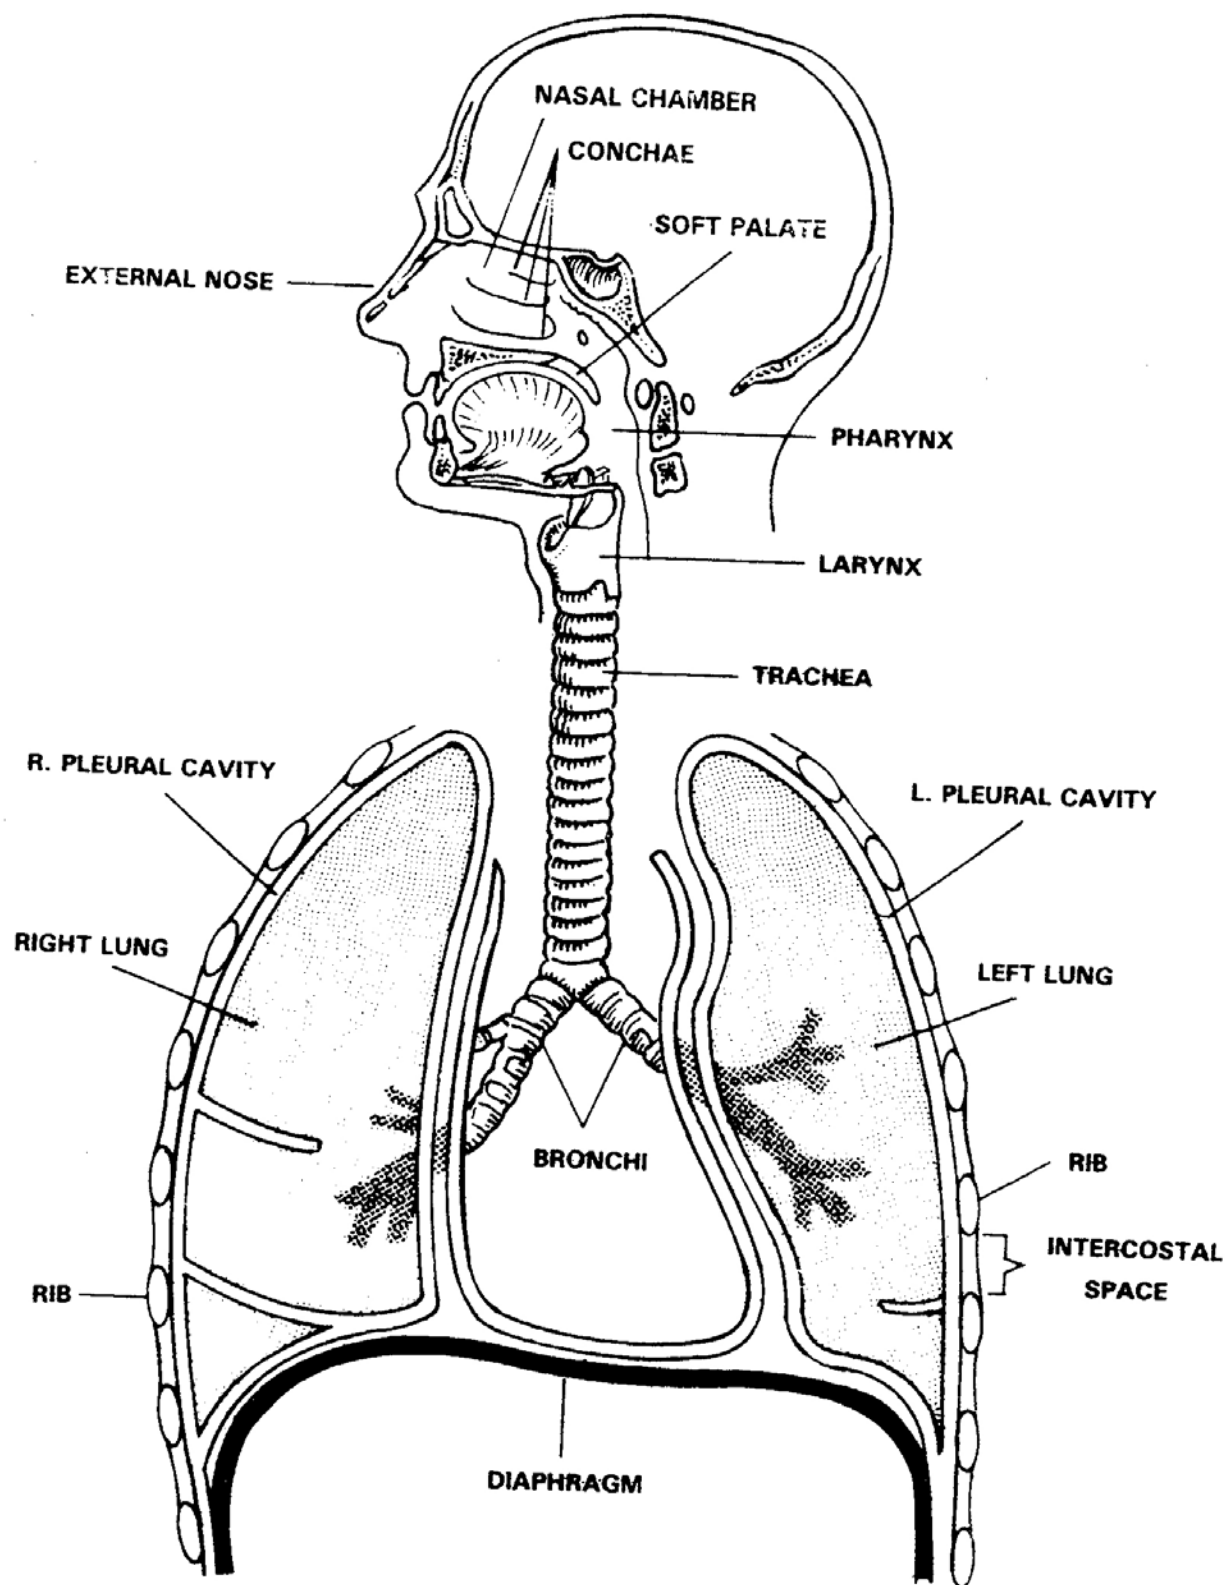

Figure 1-1. The human respiratory system.
a. **Components.** The human respiratory system consists of air passageways and two lungs (figure 1-1). Air moves from the outside of the body through the air passages into tiny sacs in the lungs called alveoli.
(1) Supralaryngeal (above the larynx) structures. These structures include the external nose, nasal chambers, and pharynx. These structures cleanse, warm, moisten, and test inflowing air.
(2) Larynx (voice box). This structure controls the volume of inflowing air and produces selected pitch (vibration frequency) in the moving column of air.
(3) Infralaryngeal (below the larynx) structures. These structures include the trachea, bronchi, alveoli, lungs, and pleural cavities. They distribute air to the alveoli of the lungs where the actual external respiration takes place.